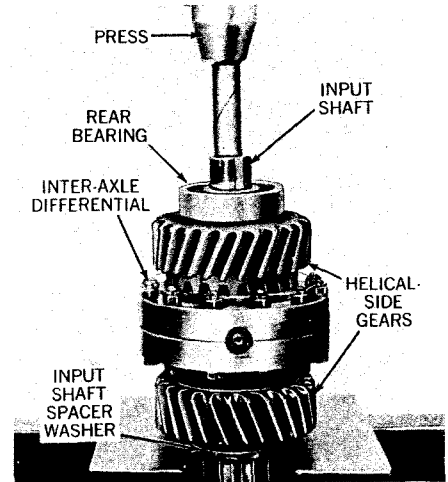

Fig. 139.
2. Place input shaft assembly in arbor press, with front helical-side gear down and input shaft front spacer washer resting on press plates (see fig. 139). Press shaft out of component parts.